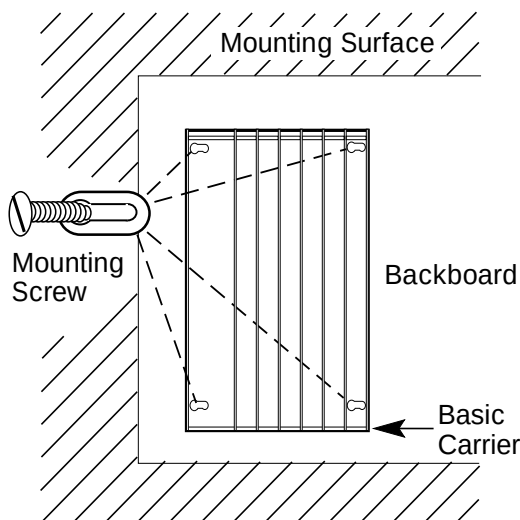
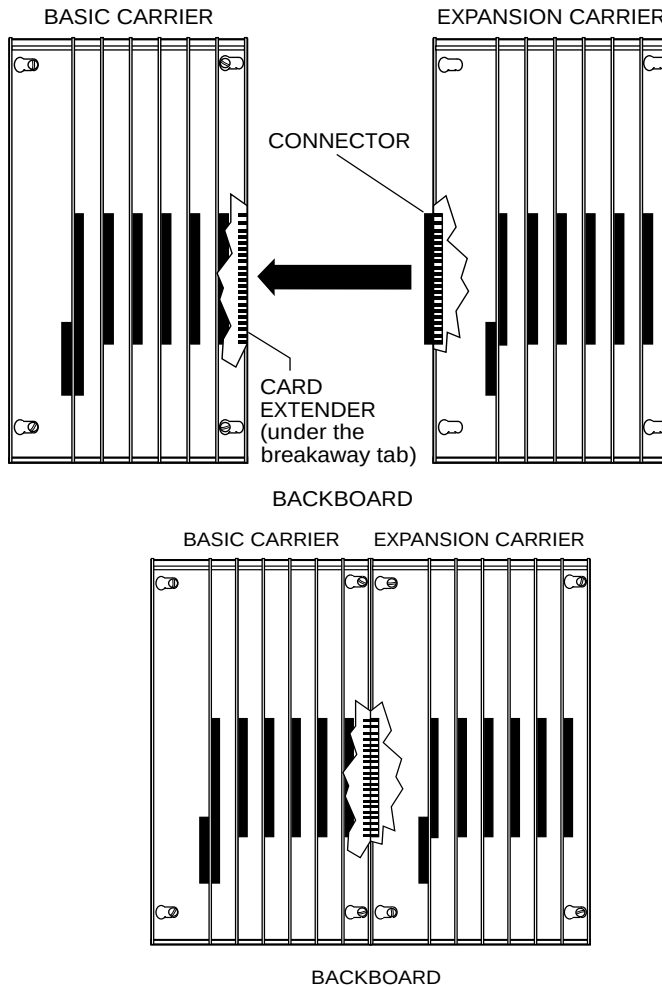

Figure 2-5. Marking the Basic Carrier Screw Holes
Figure 2-9. Connecting the Carriers
- ▶ 1. **Mark the screw-hole locations on the backboard, using the basic carrier or the template supplied with the plastic preassembled backboard as a guide. See Figure 2-5.**
If you are to install one or more expansion carriers, follow the steps below to mount each one. Refer to Figure 2-9 and Figure 2-5 throughout the procedure.